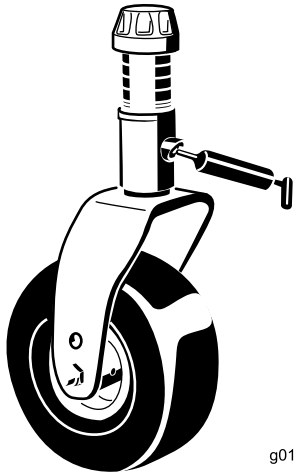

Figure 18
- Castor fork shaft bushings (2)(Figure 18)